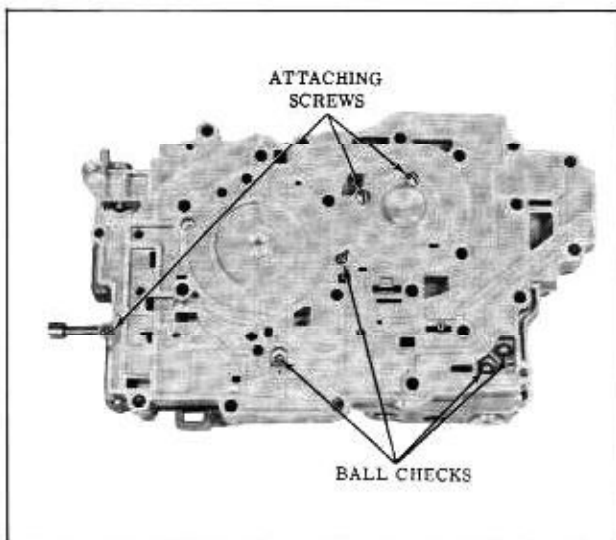

Fig. 3-87 Channel Plate Ball Checks
5. Remove 4 ball checks from channel plate, and three channel plate to valve body attaching screws. (Fig. 3-87)